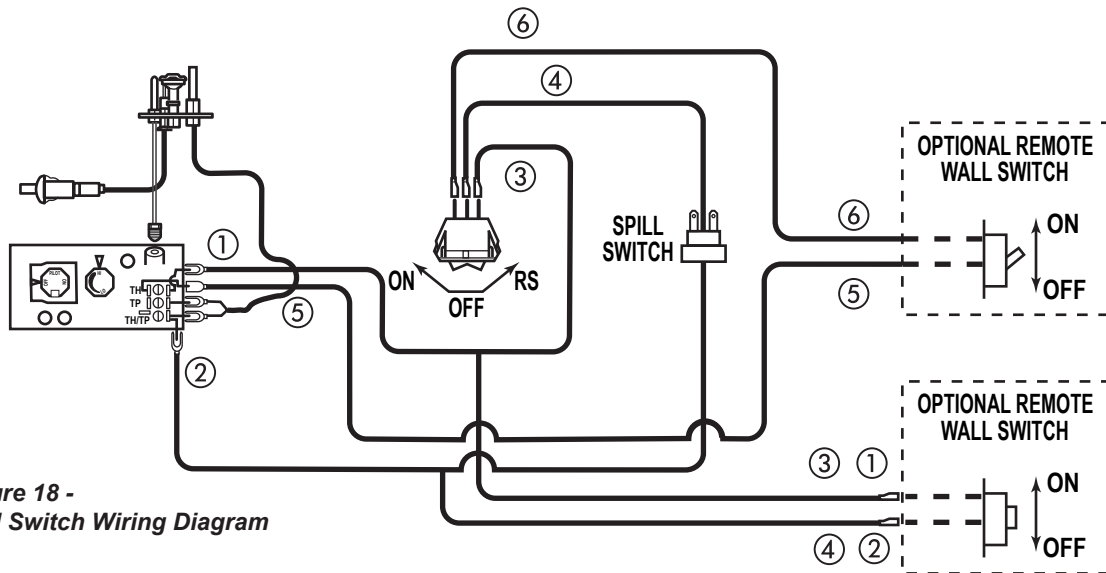

Figure 18 - Wall Switch Wiring Diagram
A remote wall switch and up to fifteen (15) feet of 18 Ga. wire may be used with this appliance. Attach the wall switch in a junction box at the desired location on the wall. *Figure 18.* Do not extend beyond the wall switch wire length provided.
2. Connect the wire terminal from the remote receiver. This replaces the 15' wall switch connection to the switch. *Figure 18*